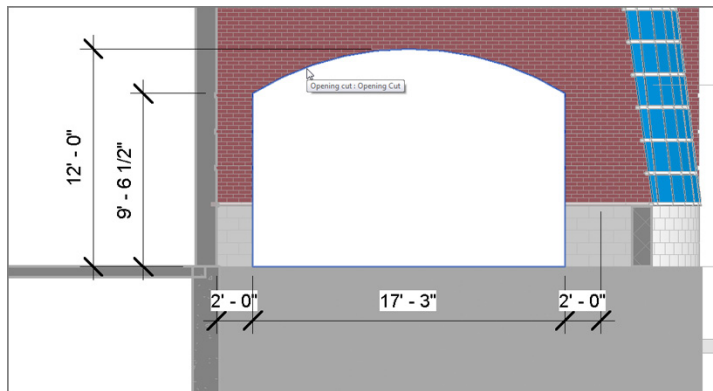

FIGURE 17.30: The arched opening
9. Sketch an opening, as shown in Figure 17.30.